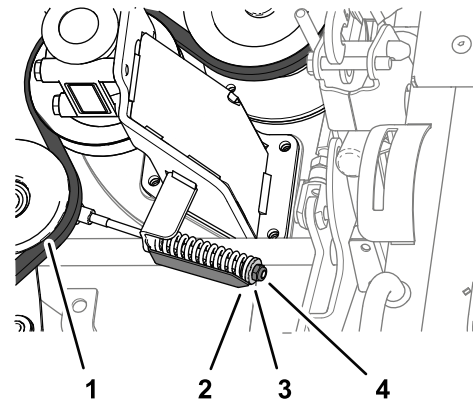

Figure 133
4. Loosen the jam nut of the belt tensioner until you can slip the belt off the belt-tensioning pulley (Figure 133).
2. Tighten the jam nut until the tension indicator arrow aligns with the outer surface of the washer (Figure 133).